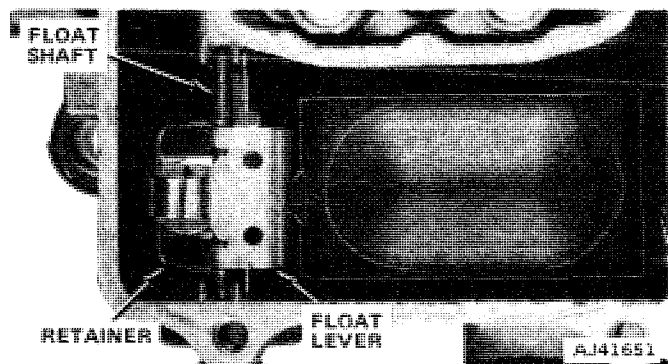

Fig. 1J-79 Float Assembly
(14) Remove fuel inlet needle seat and gasket. Remove main jets with Main Metering Jet Wrench J-10174 (fig. 1J-80).